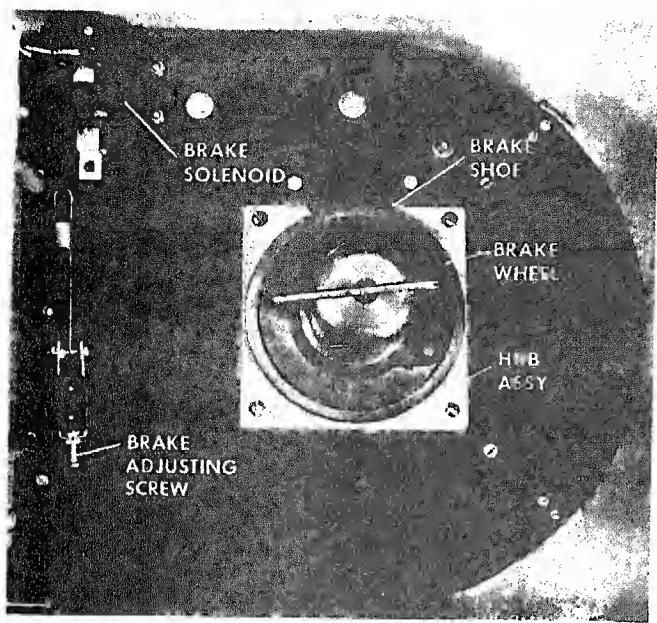

Figure 13. Brake Mechanism
The wire reel mounts and locks on a hub assembly (Fig. 13) which also provides a braking surface (wheel) for the shoe of the drag brake. The operation of the brake is determined by the position of the PUSH-PULL switch. In PUSH position, the brake remains engaged and the brake shoe drags on the brake wheel of the hub to control overrun of wire from the reel. In PULL position, the brake is electrically released when the trigger switch is pulled to eliminate drag so that the reel is free as the wire is pulled by the gun. As soon as the trigger is released, the spring loaded brake re-engages with the brake wheel of the hub to stop wire pay-out.
- e. Check brake (Fig. 13) for proper adjustment.
- c. Turn the brake adjusting screw (Fig. 13) until brake shoe makes light contact with the wheel.